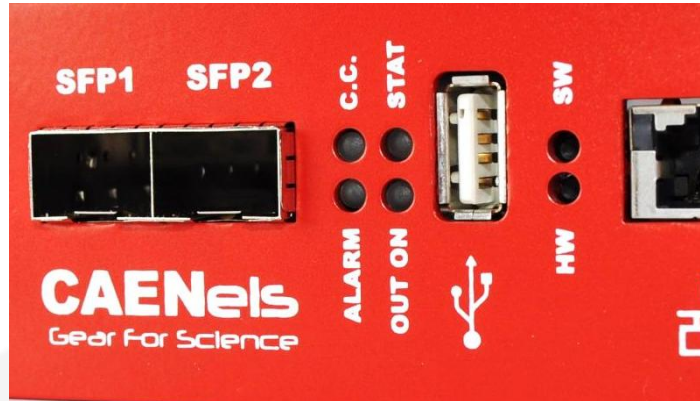

Figure 11: Front panel indicators
The REGUL8OR has four (4) front panel LED indicators as shown in the following **Figure 11**.